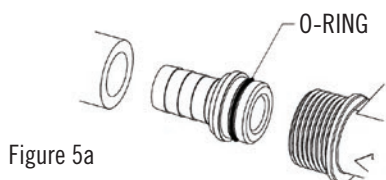

Figure 5a
- 5. Tighten each hose clamp to secure suction and discharge hoses to all barb fittings to prevent fluid leaks (Figure 5a - 5c). Hook Nozzle Bracket to IBC Cage at preferred location.
5. Install Discharge Hose with nozzle to discharge side of pump with included barb fittings and hose clamp (see Figure 5a-b, page 5).